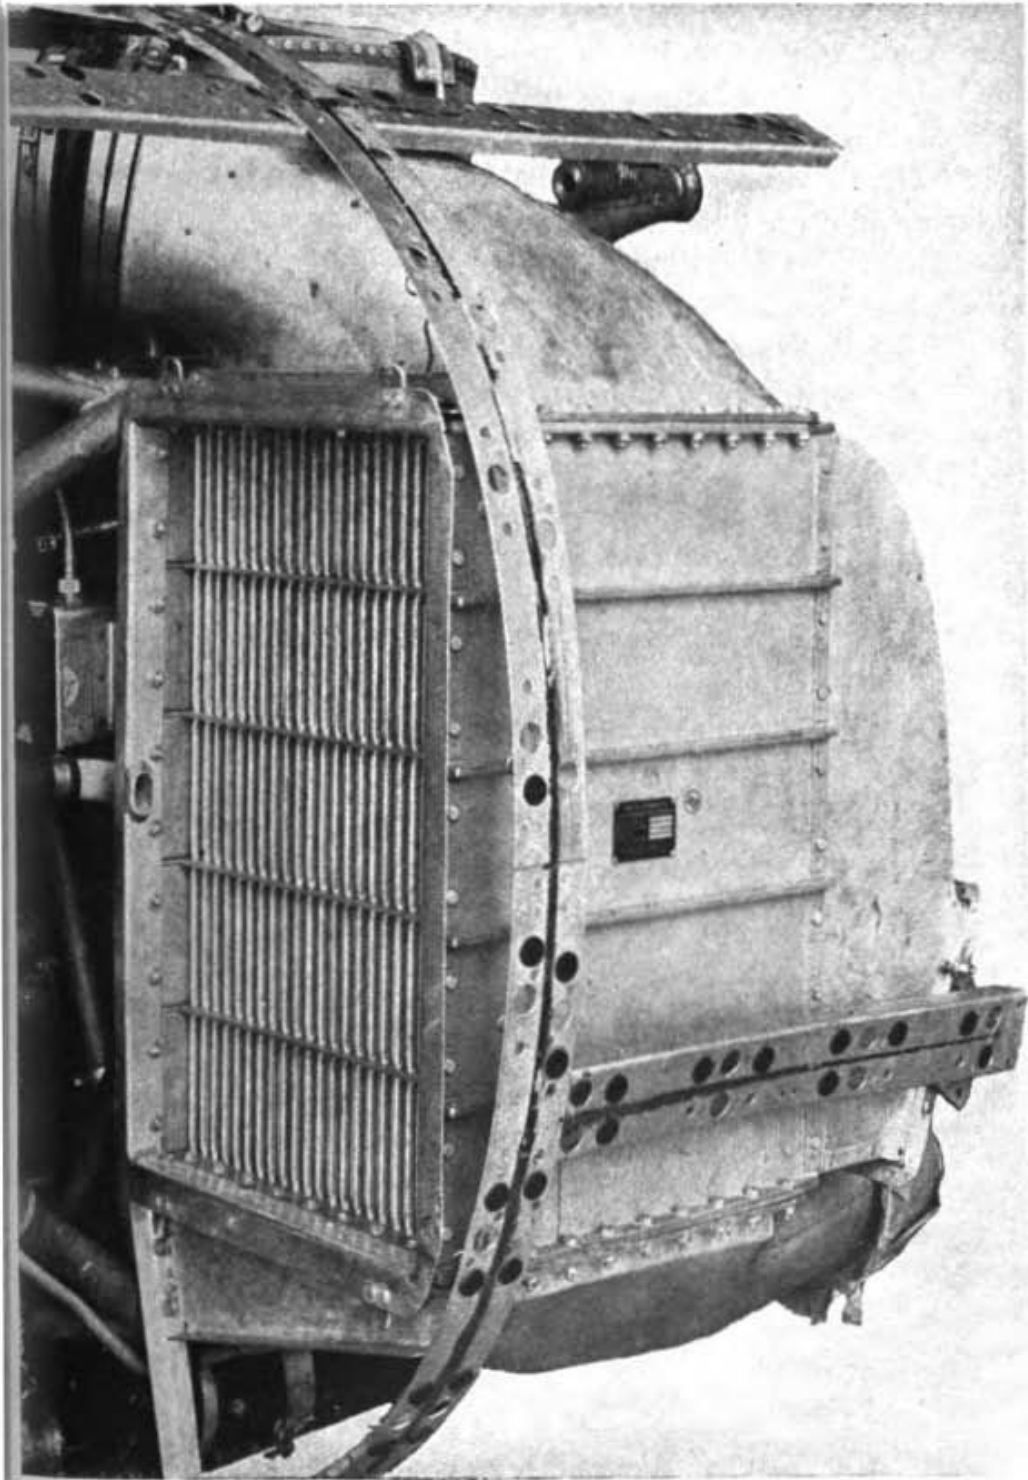

Figure 20. Intercooler.
(2) UNFEATHERING. To unfeather a propeller, adjust the throttle to a "cracked" position (one-tenth open), leave the mixture control in IDLE CUT-OFF, and hold the feathering control at UNFEATHER until the tachometer shows 700 to 900 rpm. With the engine windmilling and fuel pressure registering 4 to 5 pounds per square inch, turn the fuel ON, place the ignition switch in the BOTH position (indicating that both magnetos should operate), move the mixture control to AUTO RICH position, and the engine should start. Watch the tachometer to make sure the engine is operating. If the engine should backfire, work the wobble pump or electric booster pump to remove all the air from the fuel lines and carburetor.
k. Intercooler control. Compressing air by a supercharger, or by any other means, increases its temperature considerably. It is desirable to cool this compressed air before it reaches the carburetor intake, thus preventing detonation, preignition, and reduction of the density of the intake mixture. This is accomplished by means of an intercooler (fig. 20), usually in the form of a radiator between the carburetor intake and the supercharger. The radiator core is exposed to the slipstream, and air passes through the core and cools the warm compressed air in the same manner as water is cooled in a radiator. Adjustment of the intercooler shutters controls the temperature of the compressed air. Carburetor mixture temperature and carburetor air-intake temperatures should be as specified in paragraph 4g.